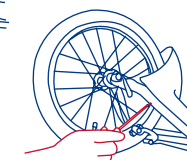

Fig. 7d
- Insert the 4 screws through the underside of the front frame assembly into the front fender's plastic tubes. Tighten the screws only until snug (Fig. 7d). **NO NOT OVER-TIGHTEN.**